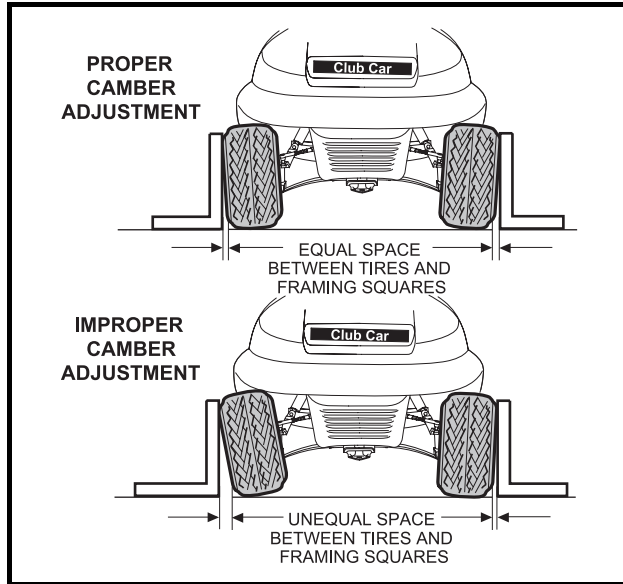
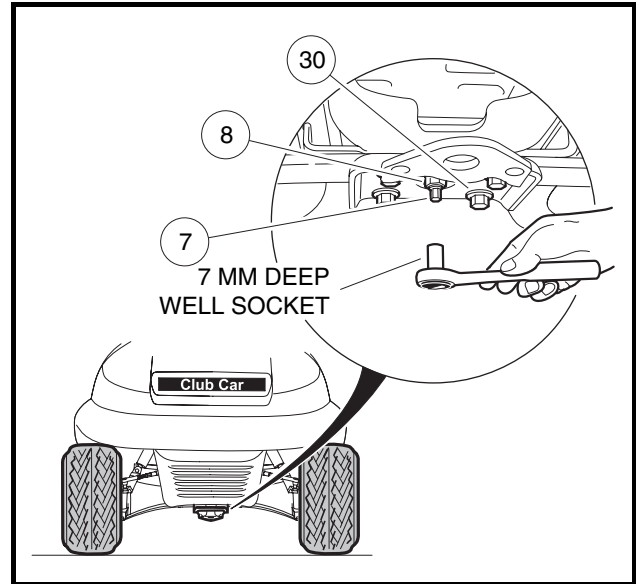
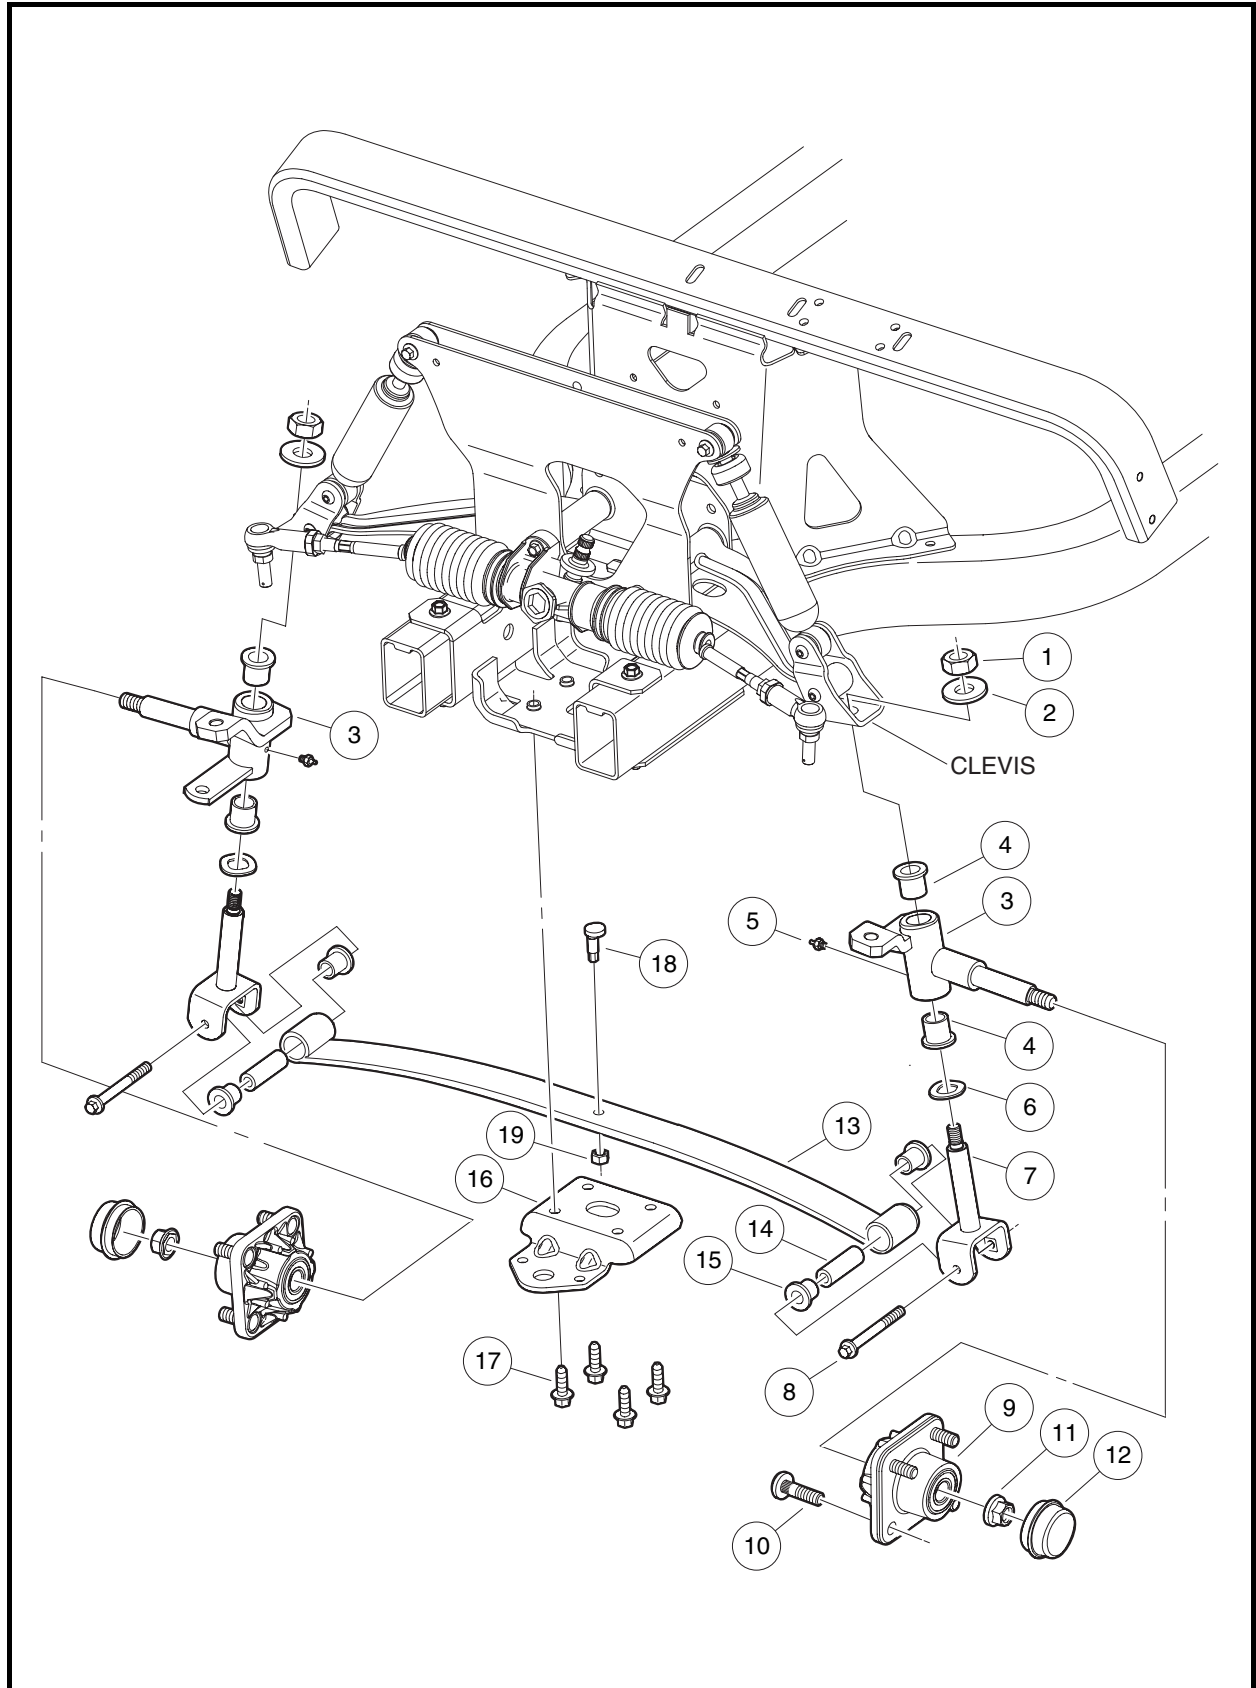

Figure 7-14 Check Camber
Figure 7-15 Adjust Camber
Figure 7-19 Lower Front Suspension Assembly
1. Check each front wheel with a framing square. At the floor (or ground), there should be an equal amount of space between each tire and the framing square (**Figure 7-14, Page 7-11**).
2. Loosen, but do not remove, the four bolts (17) that secure the leaf spring (13) to the bottom spring plate (16) (**Figure 7-19, Page 7-16**). **See also Figure 7-15, Page 7-11.**
3. Loosen, but do not remove, the hex nut (8) on the adjustment eccentric (7) (**Figure 7-15, Page 7-11**) in the center of the spring. **See also Figure 7-19, Page 7-16.**
4. Use a 7 mm deep well socket to rotate the eccentric (**Figure 7-15, Page 7-11**).
5. After adjusting camber, use a crisscross pattern to tighten the four spring retaining bolts (17) (**Figure 7-19, Page 7-16**) to 23 ft-lb (31 N·m). Then roll the vehicle forward one full tire revolution and recheck the camber. **See also Figure 7-14, Page 7-11.**
6. Tighten the hex nut (8) on the adjustment eccentric (7) to 10 ft-lb (13.5 N·m) (**Figure 7-15, Page 7-11**) **See also Figure 7-19, Page 7-16.**
3. Remove the bolts (8) from the bottom of each kingpin (7) (**Figure 7-19, Page 7-16**).
4. Remove the four bolts (17) and bottom spring plate (16).
5. Remove leaf spring (13).
6. Check the condition of the urethane bushings (15) and steel sleeves (14). Replace any that are worn or damaged.
1. Install urethane bushings (15) and steel sleeves (14) into leaf spring eyes (**Figure 7-19, Page 7-16**).
2. Install leaf spring (13), bottom spring plate (16), and four bolts (17). Using a crisscross pattern sequence, tighten bolts to 23 ft-lb (31 N·m).
3. Install spring in kingpins (7) with bolts (8). Tighten to 17 ft-lb (23 N·m).
3. Remove the nut (1) and conical washer (2) from the top of the kingpin (7) (**Figure 7-19, Page 7-16**).
5. Slide the spindle (3) off the kingpin (7).
6. Remove the wave washer (6) and inspect it. If the washer is broken or has a wave bottom to wave crest height dimension of less than 0.040 inch (1 mm), it must be replaced.
7. Remove bolt (8) from bottom of kingpin (7) and remove kingpin.
9. Inspect the bushings (4). If the bushings are worn or damaged, remove them and press in new ones.
2. Install the kingpin (7) over the leaf spring eye. Insert the bolt (8) (**Figure 7-19, Page 7-16**). Tighten the bolt to 17 ft-lb (23 N·m).
3. Install the wave washer (6) on the kingpin.
4. Install the steering spindle on the kingpin. Place upper clevis over the kingpin threads and install conical washer (2) and nut (1). Tighten the nut to 50 ft-lb (68 N·m).
2. Remove dust cap (12) and lock nut (11) (**Figure 7-19, Page 7-16**).
3. Slide the hub assembly (9) off of the spindle shaft (3).
1. Clean and apply a light coat of anti-seize lubricant to the spindle shaft (3).
2. Slide the hub assembly (9) onto the spindle shaft (**Figure 7-19, Page 7-16**).
3. Install a new flanged lock nut (11) and tighten to 36 ft-lb (50 N·m).
5. Install the dust cap (12) using a rubber mallet and tapping lightly around the edge of the cap.